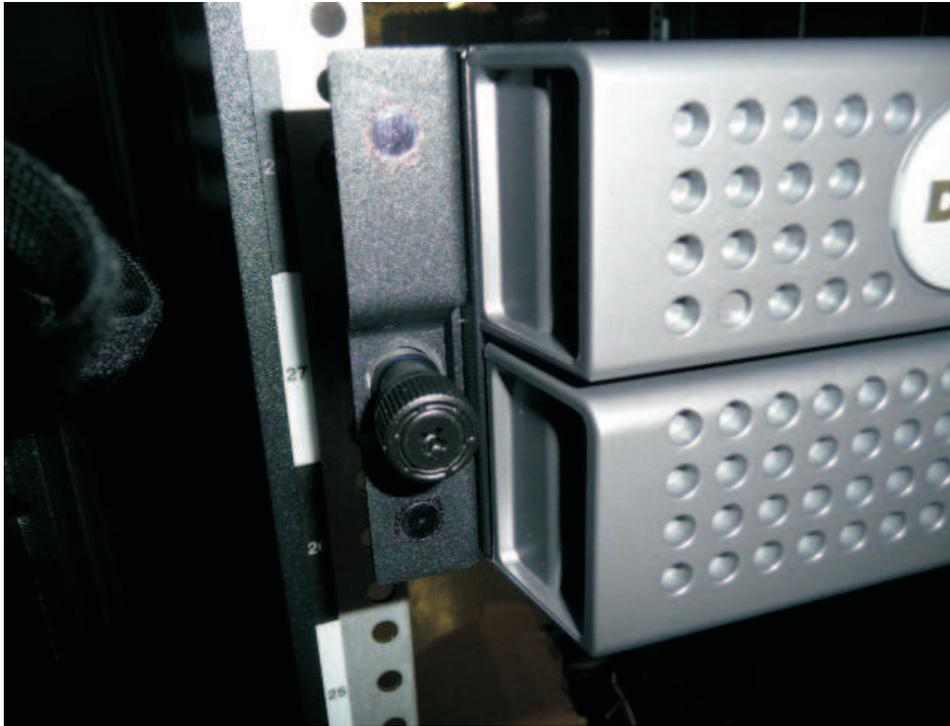
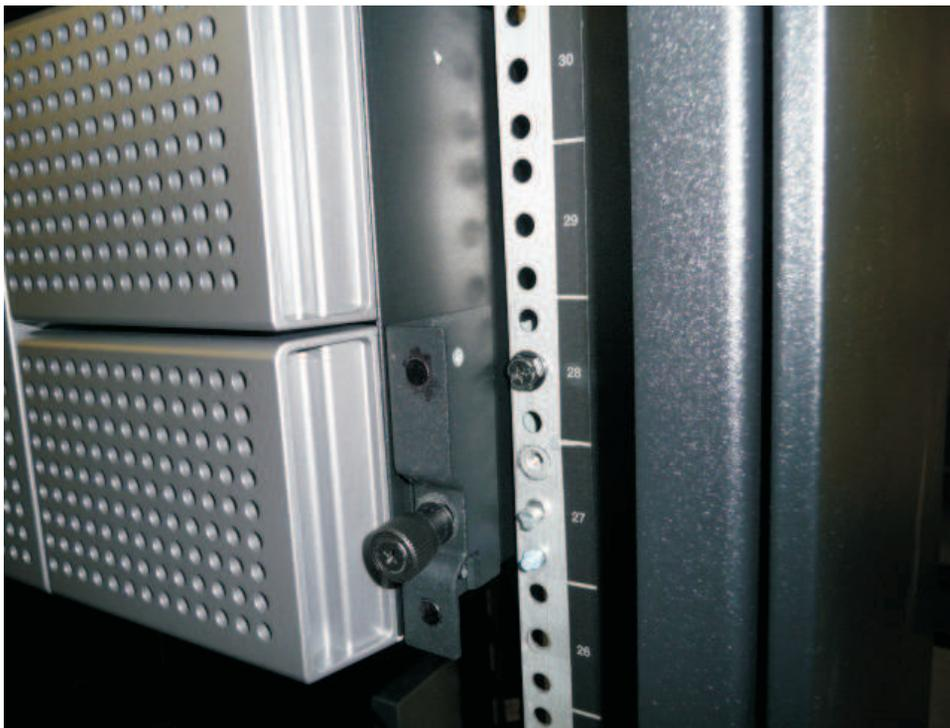

Figure 33. Sliding the 2U library into the rack
Figure 34. Sliding the 4U library into the rack
7. With library rack anchors and mounting brackets installed, slide the library onto the rails (as shown in Figure 33 on page 50 and Figure 34 on page 50). Gently push the library into the rack to lock the REAR anchors installed on each side of the library. When the library stops, the front mounting brackets will be flush with the vertical rack rails.